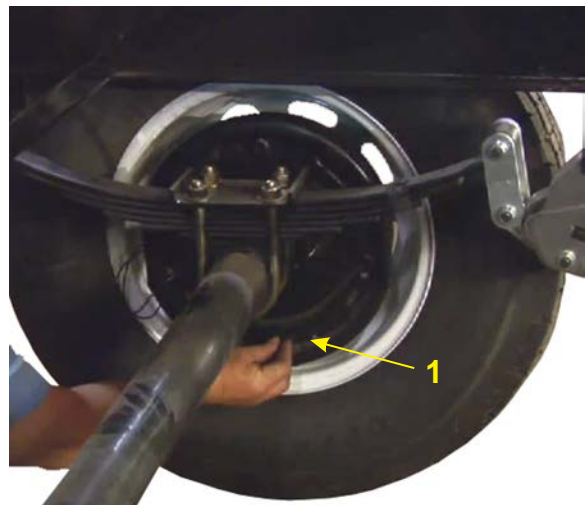

Figure 4-13 – Remove Brake Adjuster Access Cover
- d. Remove the rubber adjustment cover (1, Figure 4-13) to access the trailer brake adjuster.